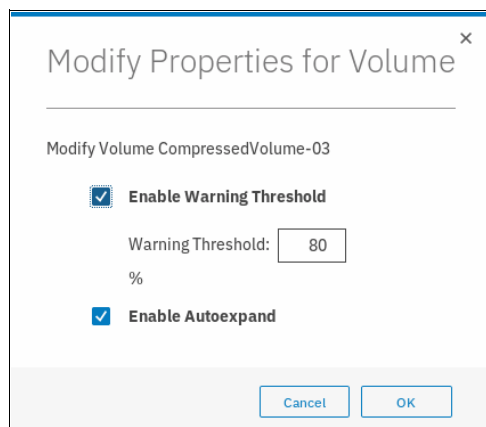

Figure 8-54 Modify volume copy properties
3. To change the volume copy properties for the thin-provisioned or compressed volume copy type, select a volume copy from the Volumes window, and click **Actions** → **Modify Properties**. Use the Modify Properties window (see Figure 8-54) to customize the thin-provisioning values: Warning Threshold and Enable Autoexpand.